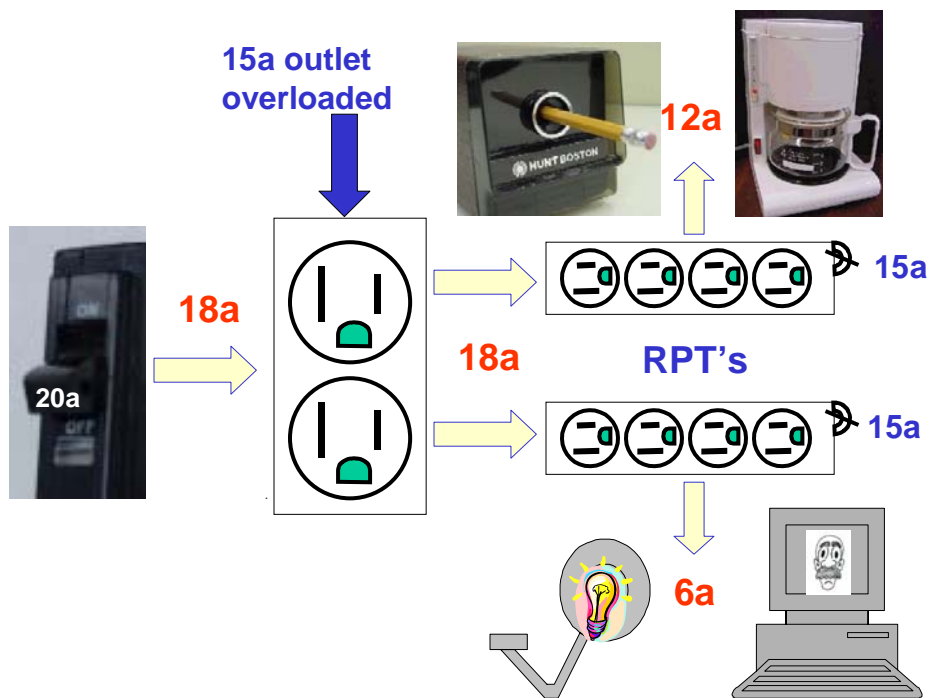

Figure 1
OSHA 1910.304(b)(4) & NEC® 210.21 Outlet devices shall have an ampere rating not less than the load to be served. Also OSHA 1910.304.(b)(4)(ii)(B), NEC® 210.21(B)(2) and NFPA 70E 410.5(B)(2) (Part I chapter 2-2.5(b)(2), 2000 Edition) generally limits the maximum cord-and-plug-connected load to branch circuit receptacles to 12 amperes or 1440 watts for a 15-ampere receptacle. This is easily exceeded with the use of heavy appliances but not with the lighter loads, such as computer peripherals and other equipment listed for intended use in the UL white book for RPT's. Figure 1 illustrates the overloading of a 15 amp receptacle outlet on a 20 amp branch circuit where RPT's are used to allow excessive loads to be connected to the outlet and circuit. It should be